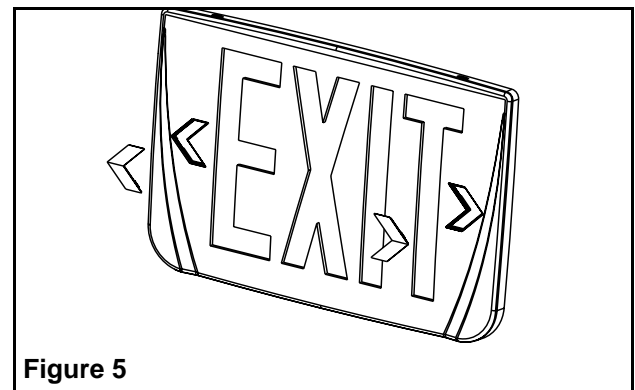

Figure 5
6. Remove the appropriate chevron(s) on the exit door by holding sign with both hands. Push chevrons from the inside with thumb (See Fig. 5). You may need to unsnap the diffuser panel to do so.